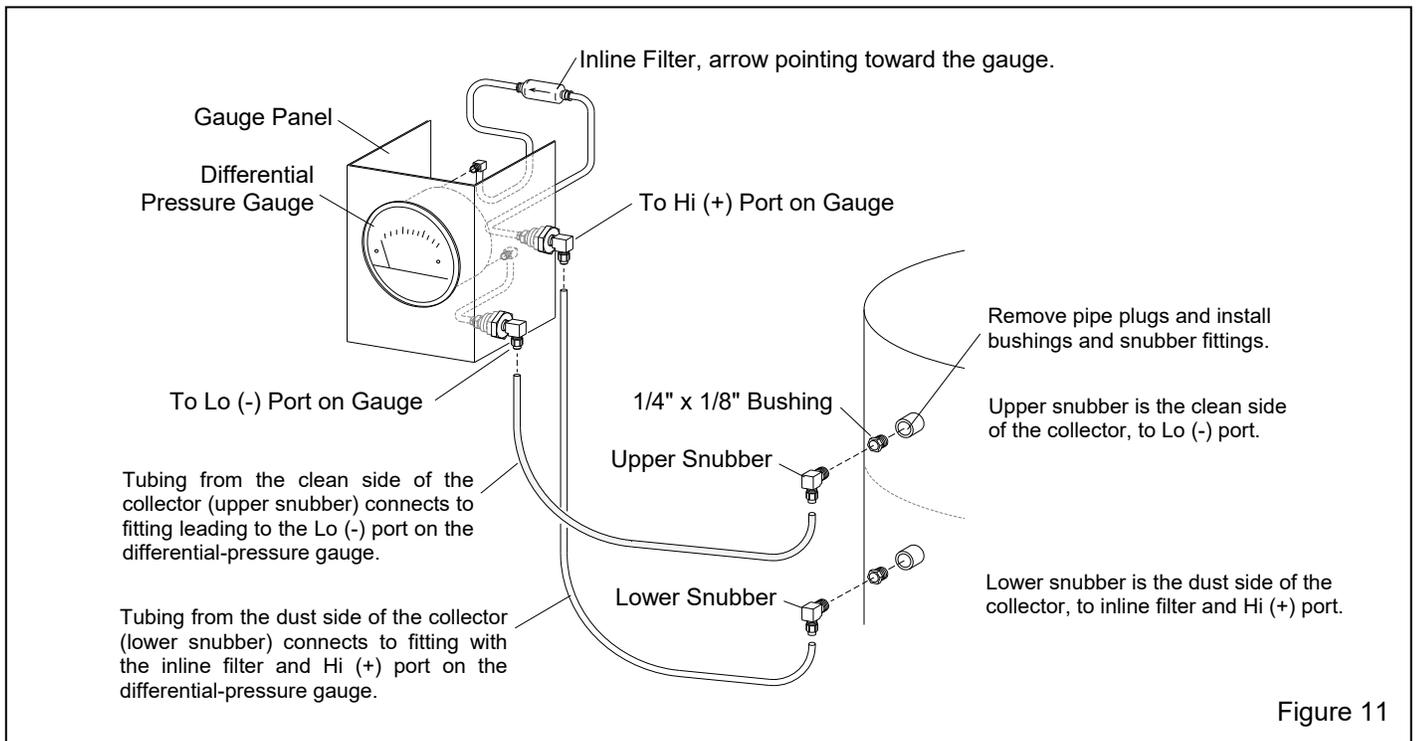

Figure 11
3.6.2 The gauge panel, gauge, filter, and panel fittings come fully assembled; the bushings, snubber fittings, and tubing are loose. Mount the panel on the cabinet or power module at a location where it can be easily monitored. There is not enough room on a Pulsar-55se to mount it at the front of the cabinet, choose another convenient location. A 20-foot length of tubing is included with the kit, allowing the panel to be mounted within 10 feet of the dust collector connections, as shown in Figure 11.
3.6.4 Remove 1/4" pipe plugs from the dust collector body and install 1/4" x 1/8" bushings and snubber fittings, as shown in Figure 11.